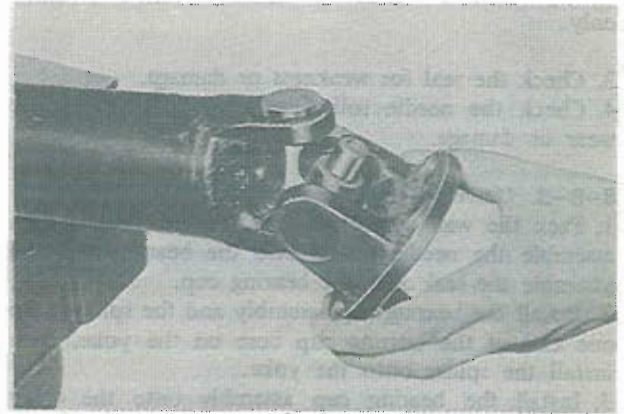

Fig. 8-7 Removing of yoke and spider assembly
8. Remove the yoke and spider assembly as shown in Fig. 8-7.